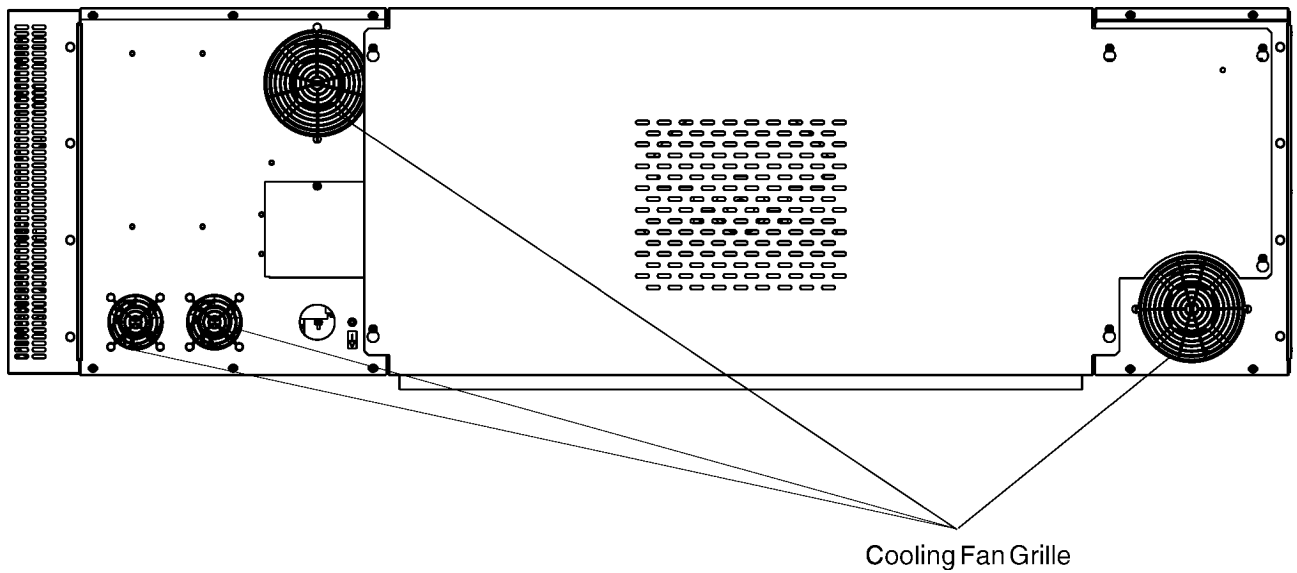

Figure 1-8. Cooling Fan
E. Cooling Fan — See Figure 1-8